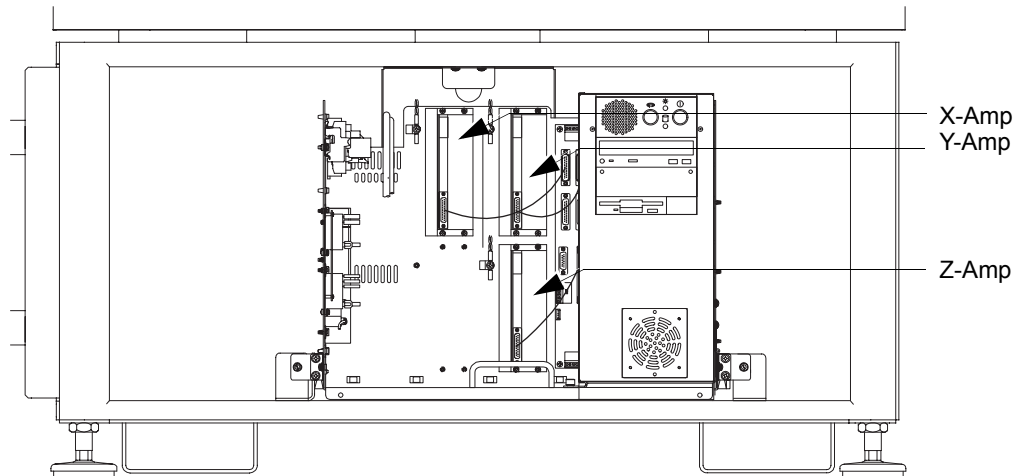

Figure 9-29 Location of the X-, Y-, and Z-Axis Amplifiers
4. The Amplifiers are located on the back wall of the drawer; see Figure 9-29.